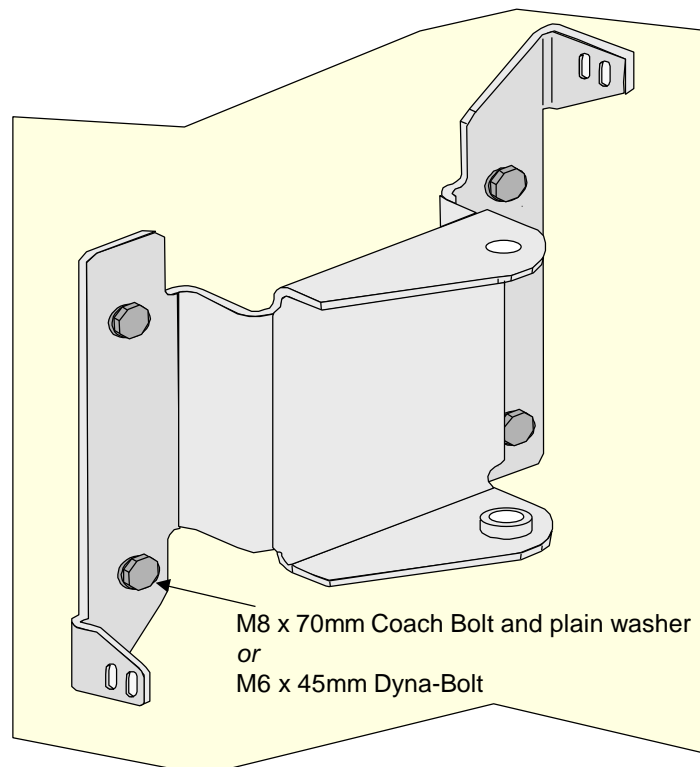

Figure 17. Fixed wall mounting bracket
- Secure the Antenna Radium (with extension if fitted) to the Antenna mounting bracket using four M6*20mm Hex Head Set Screws, 6mm Flat and 6mm Coiled Washers as shown in Figure 17. Tighten the Set Screws to a torque of 4Nm.